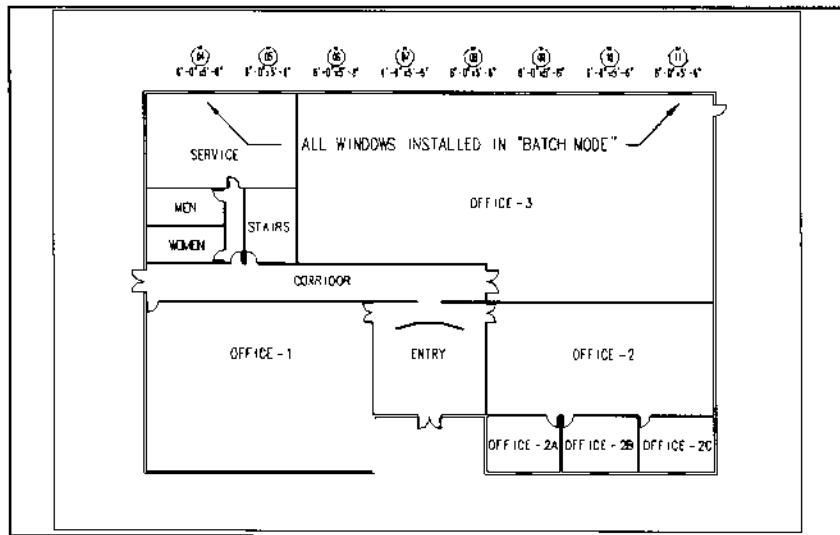

Figure 25.
1. Use the AutoCAD ARRAY command to array window 04 along the exterior building wall line for windows 05-11 before installing them in a "batch mode" as shown in Figure 25 with the Install command.